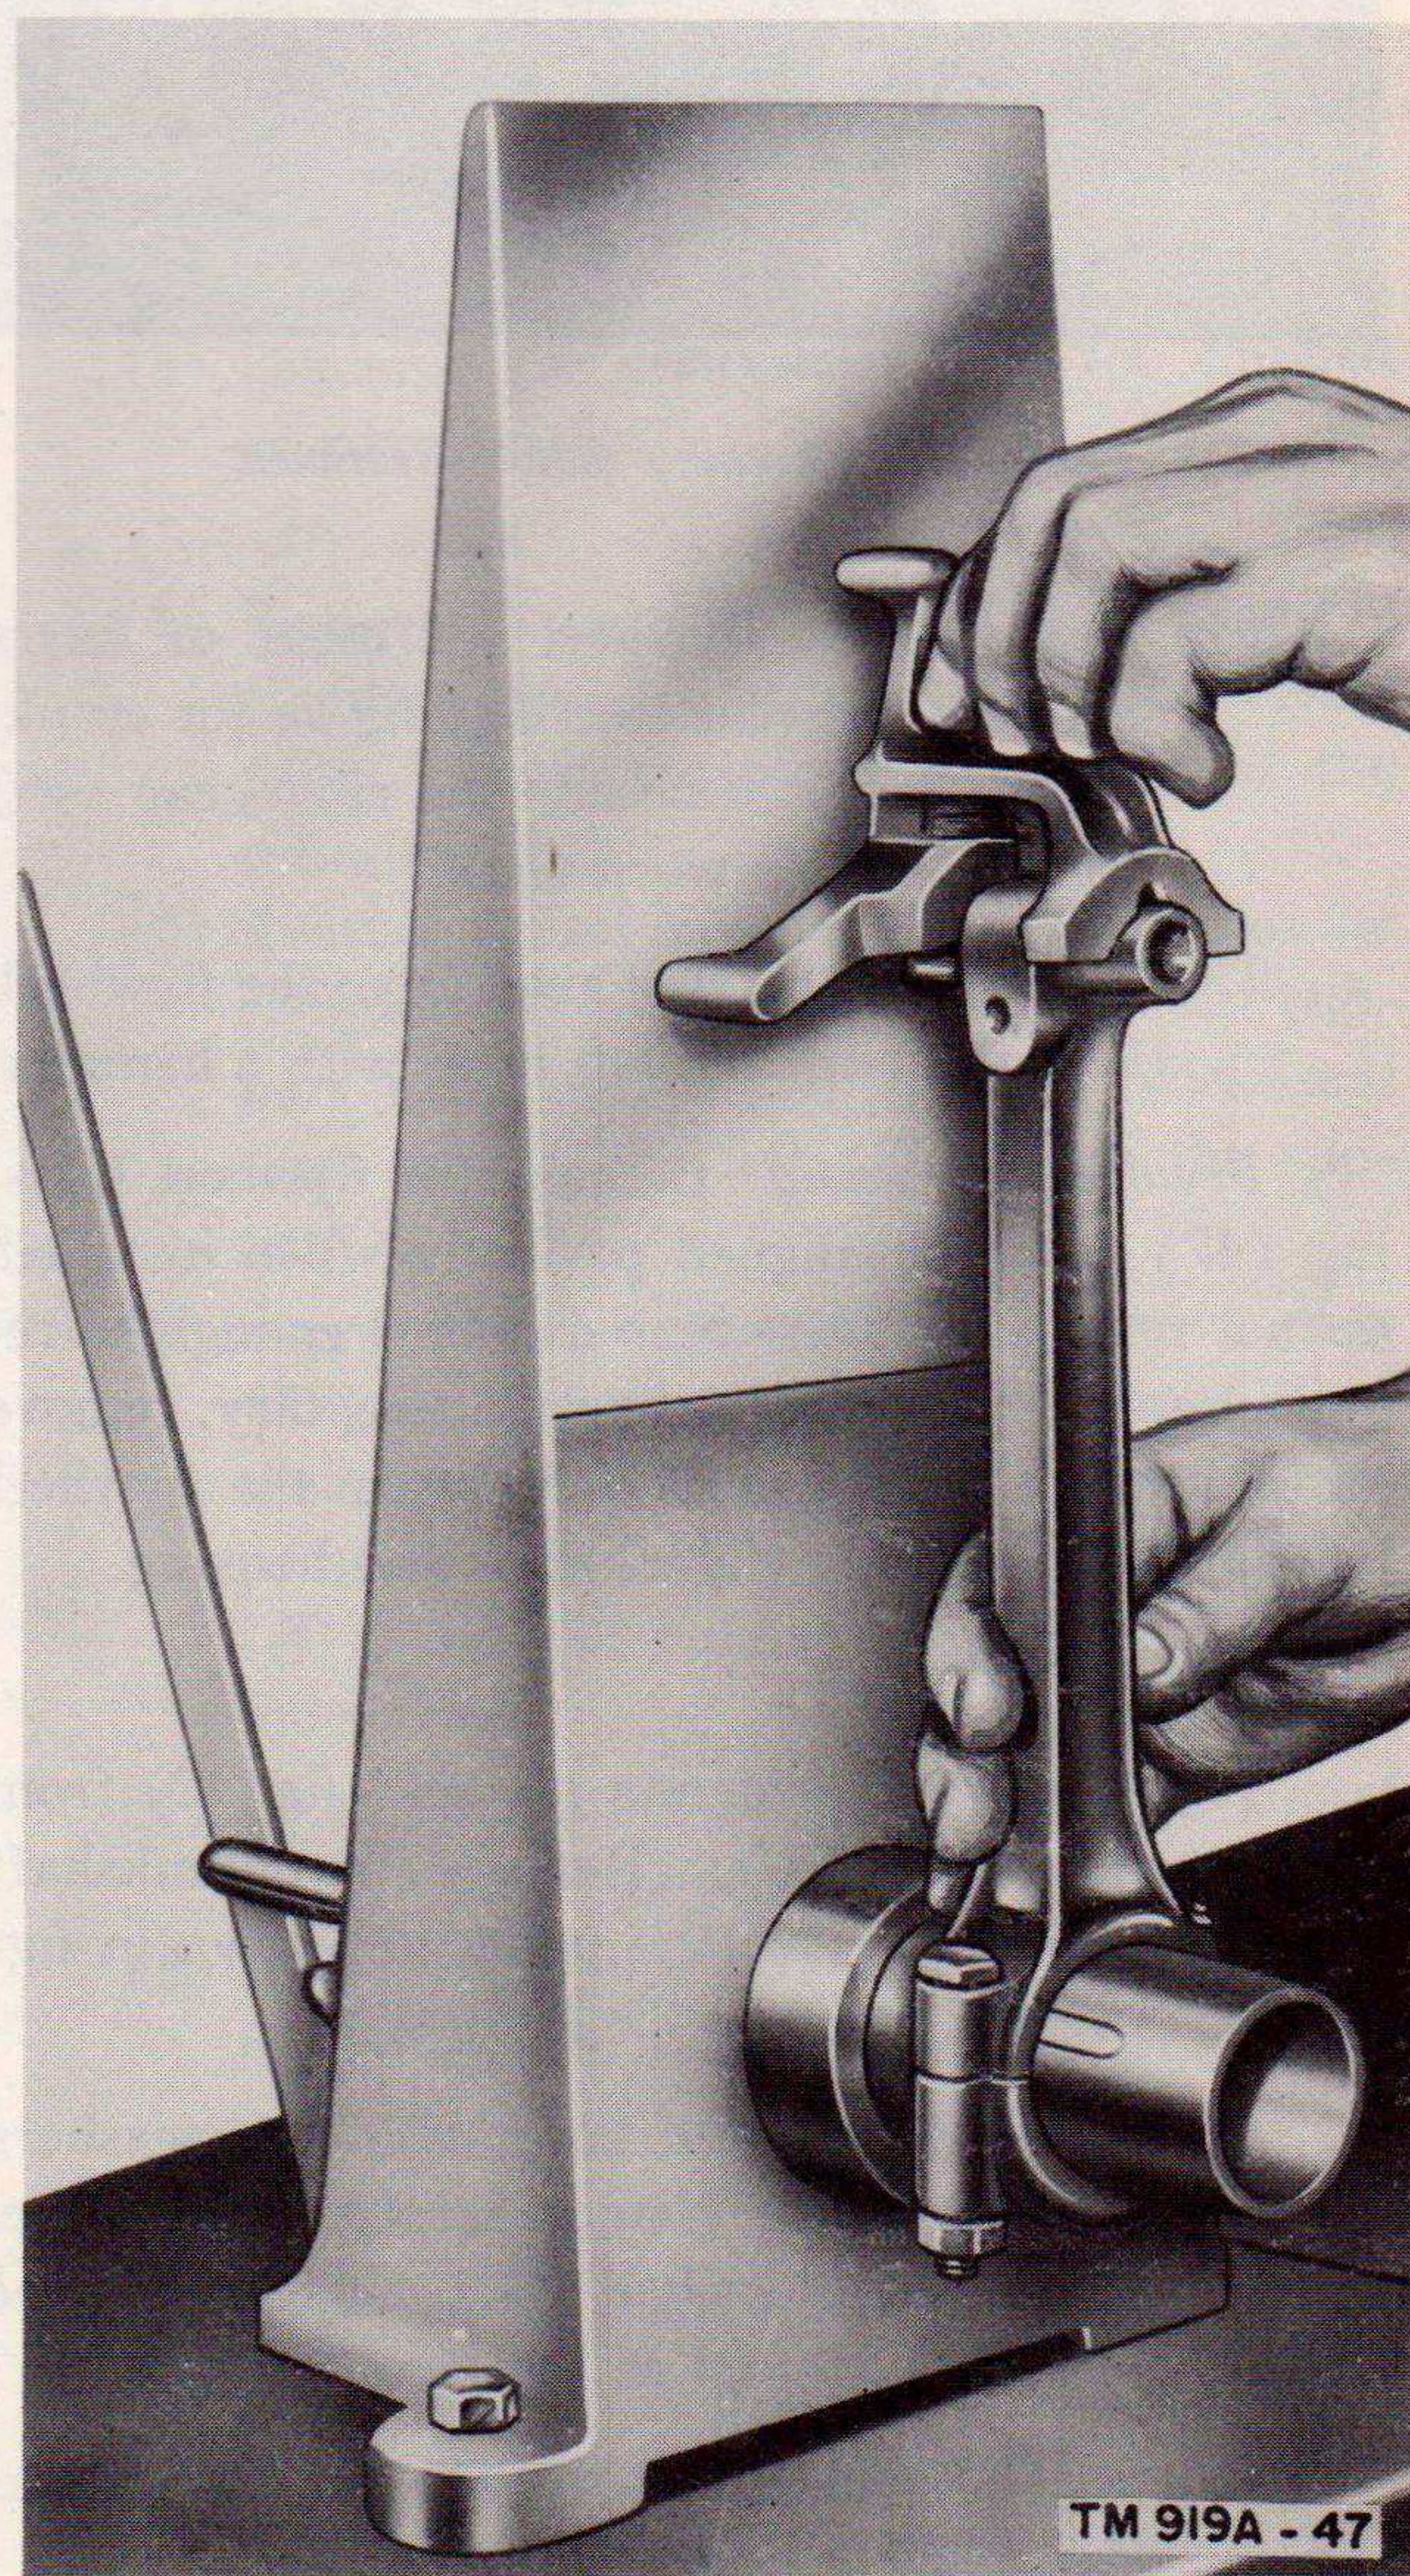
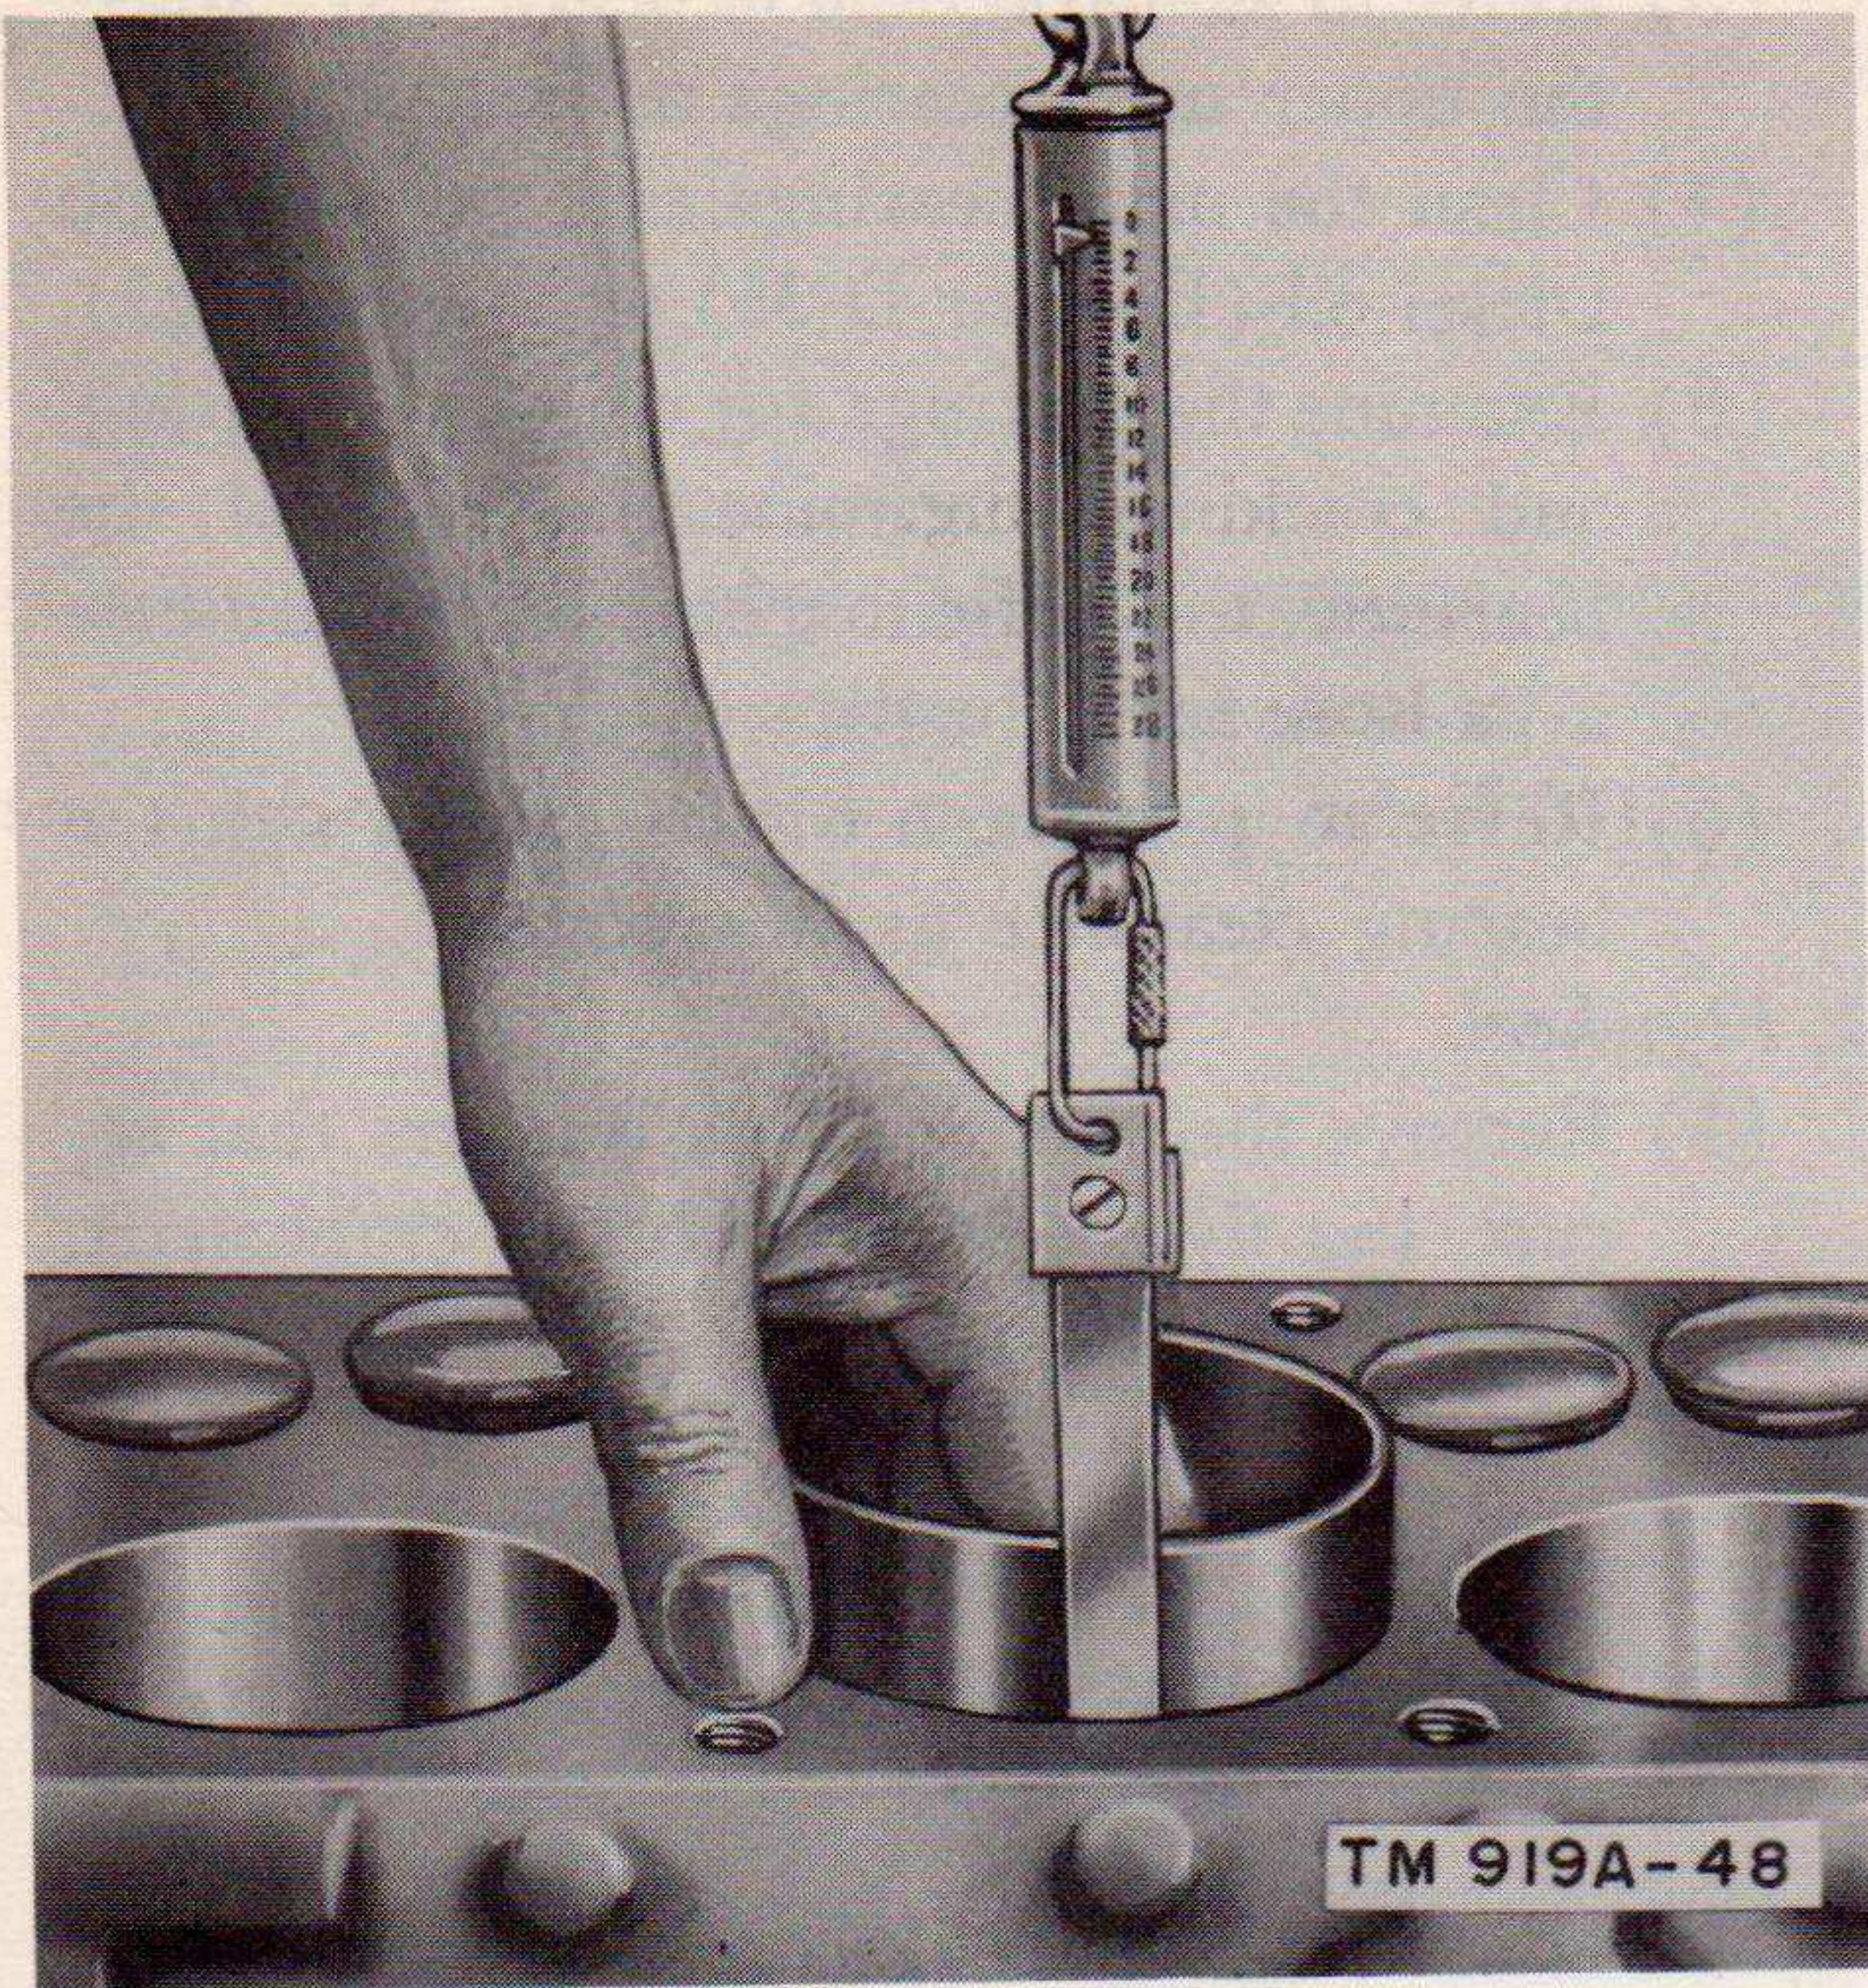

Figure 47. Aligning connecting rod.
Figure 48. Checking piston clearance.
- (11) Remove the retaining rings (34) and then tap the piston pin (35) from the piston and connecting rod.
- (12) Check the connecting rod on an aligning fixture as shown in figure 47.
- (13) Examine the bearings for chipping, scoring, and cracking. Examine the back of the bearings for bright spots, which indicate a loose fit in the caps.
- (14) Clean the bearings and caps with Diesel oil (D-40 or D-35) or solvent (SD).
- (15) Scrape the carbon from the ring grooves and soak the pistons in solvent (SD). After soaking, clean the grooves again to be sure all carbon has been removed.
- (16) Measure the clearance between the piston and cylinder wall as follows. Insert an inverted piston into the cylinder. Then measure the clearance with a .003 inch,  $\frac{3}{4}$ -inch wide feeler gage as shown in figure 48. This should give a 5- to 10-pound pull when being removed. (The gage should extend the full length of the piston on the thrust side, opposite slot.)